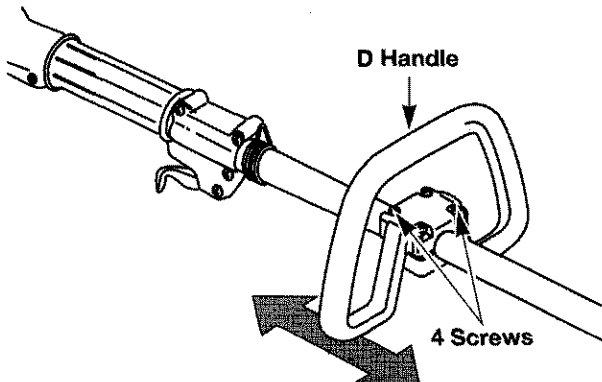

Fig. 12
1. Loosen the four (4) screws with a Phillips screwdriver (Fig. 12).